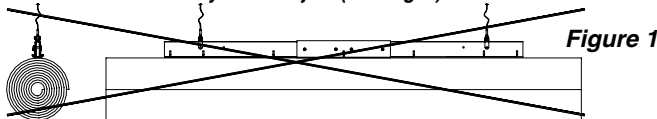

Figure 1
- ① Lower the Mat Lifter until the empty mat sling has contacted the floor. When lowering, **NEVER allow the ropes to go slack by permitting the load bar to rest upon the mat or any other object (See Fig. 1).**
- ① Lower the Mat Lifter until the mat has contacted the floor. When lowering, **NEVER allow the ropes to go slack by permitting the load bar to rest upon the mat or any other object (See Fig. 1).**
- ② Unhook the sling rings from one side of the load bar. Spread out the sling and straps making sure that there are **NO twists, wrinkles, or any overlapping material.**
- ③ Roll the mat off of the sling.
- ④ Reattach all sling rings to their corresponding hooks on the load bar.
- ⑤ Be sure the load bar is stationary and not swinging before raising, raise Mat Lifter to full up position.